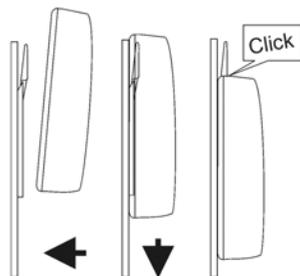

Fig. 3
3. Place the Hull Transmitter flat against the bracket slightly higher than the final position and slide gently down into position. There will be a small click as the bracket secures the Transmitter in position. (Fig. 3)